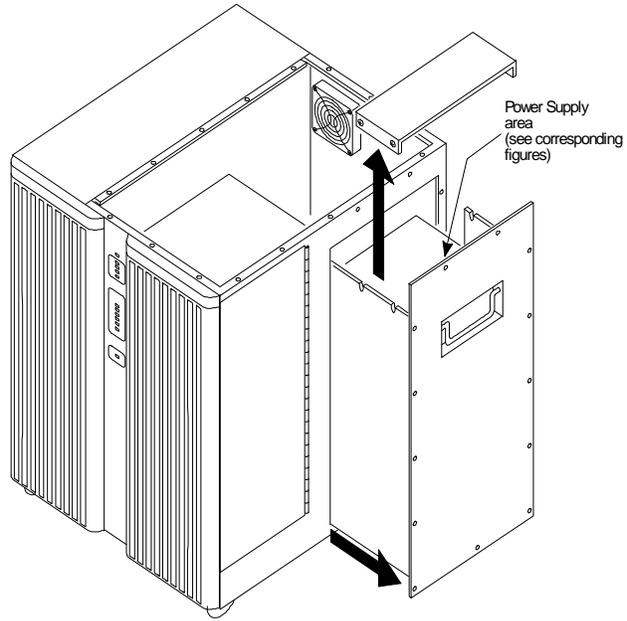

Figure 1-1. Locating the Power Supply
1. Loosen the screws on the panel on the power supply drawer. Slide the drawer toward you (Figure 1-1).